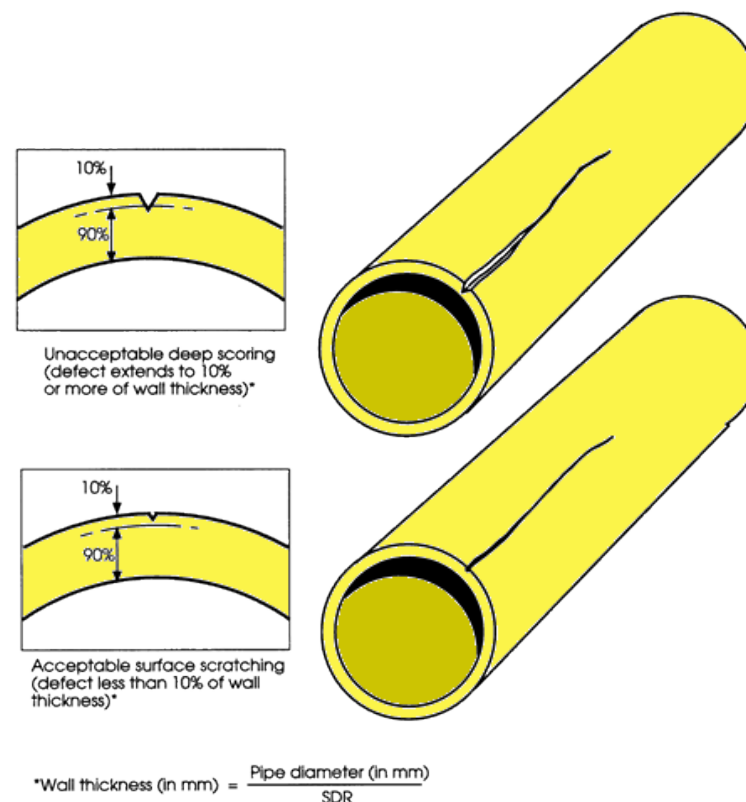

Figure 2 - Surface Damage to Polyethylene Pipe
1. You must inspect all PE pipes and fittings for cuts, deep scratches, ovality or other damage before use see Figure 2.